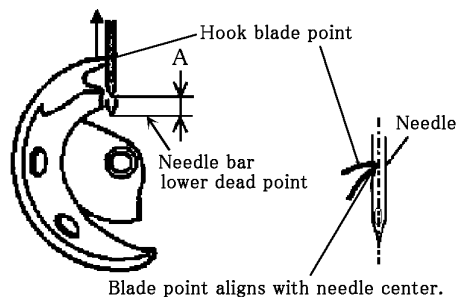

Fig.1
2. When the hook blade point is aligned with the needle center by rotating the handweel, measure the travel distance (A) of needle bar, regarding the lower dead point of needle bar as 0.(Fig. 1)
A = 1.85 ± 0.15 mm (Fig.1)